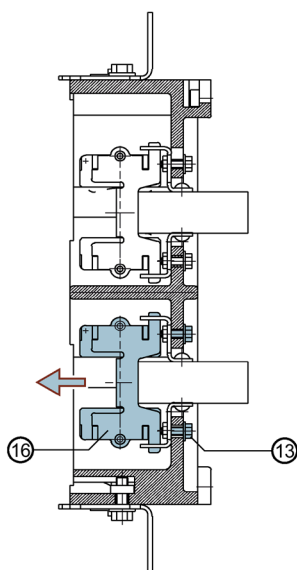

Fig. 1
1. Unscrew any connection pieces. To do so, unscrew the fixing screw ⑬ and remove the connection pieces with the finger clusters ⑯ (Fig. 1).